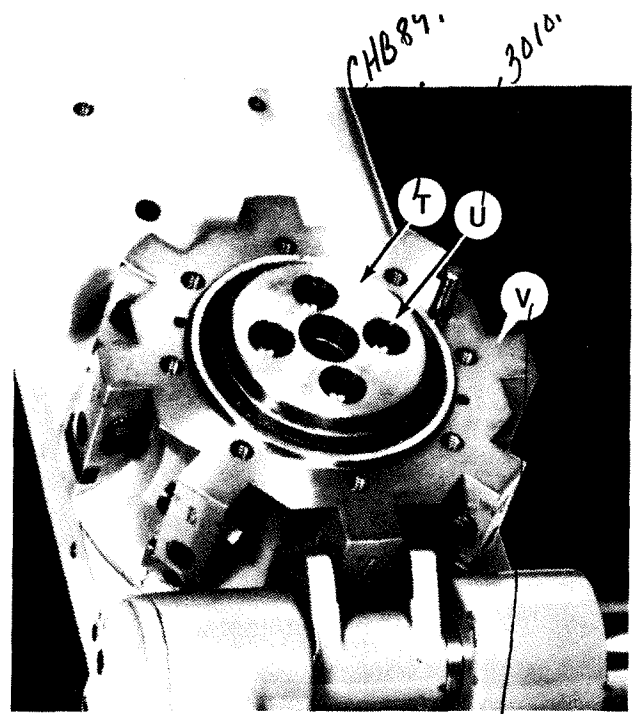

Figure 2.20 - Turret Retaining Plate
15. Remove four screws "U" and retaining ring "T", Figure 2.20 .
Screws "U", Figure 2.20, must be torqued to 200 lb-in (22.6 N•m).
6. Replace retaining plate "T" and four screws "U", Figure 2.20 .